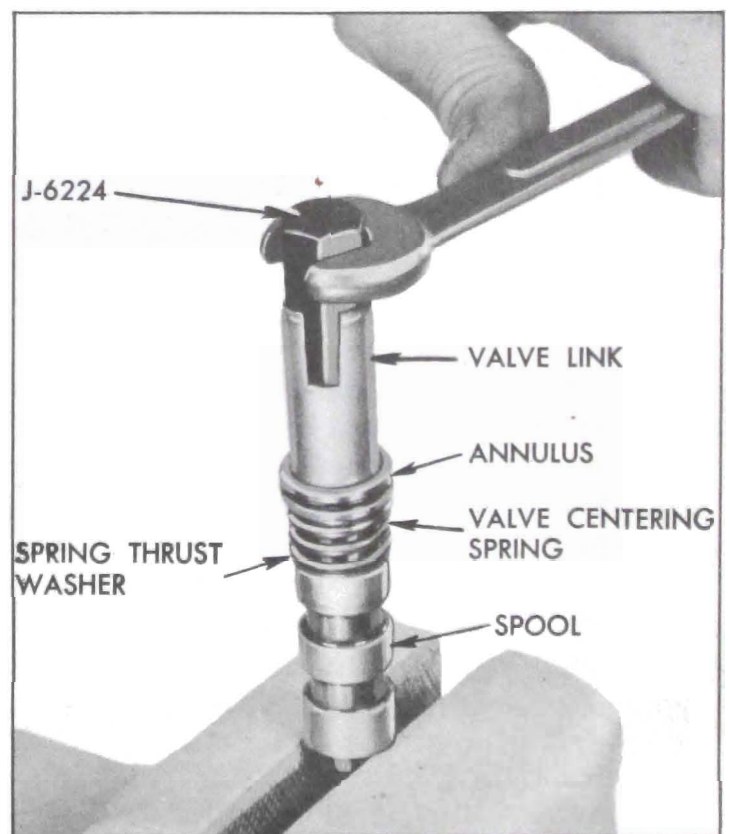

Figure 8-21—Removing Valve Link
2. Clamp the spool assembly in a vise on the small end. **DO NOT CLAMP THE SPOOL ON THE LARGE FINISHED DIAMETER.** Remove the valve link using Remover and Replacer J 6224, annulus, valve centering spring, and spring thrust washer. Then turn spool over to remove the reaction control spool and spring. See Figure 8-21.